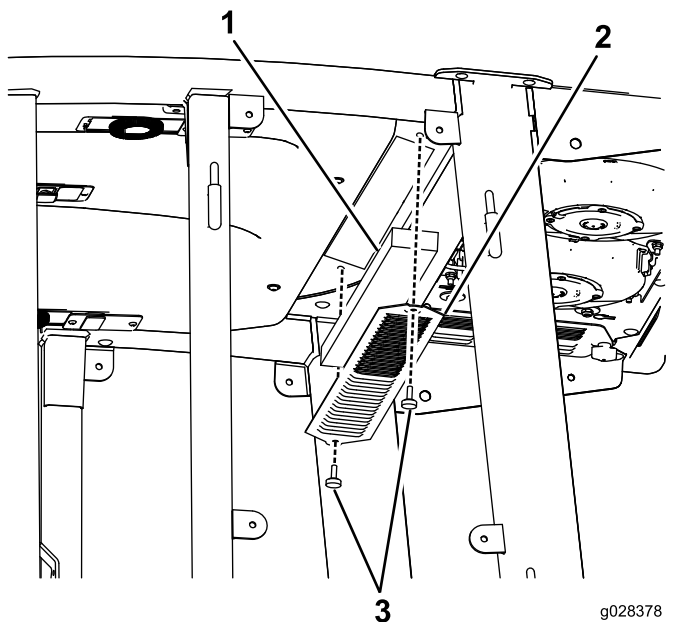
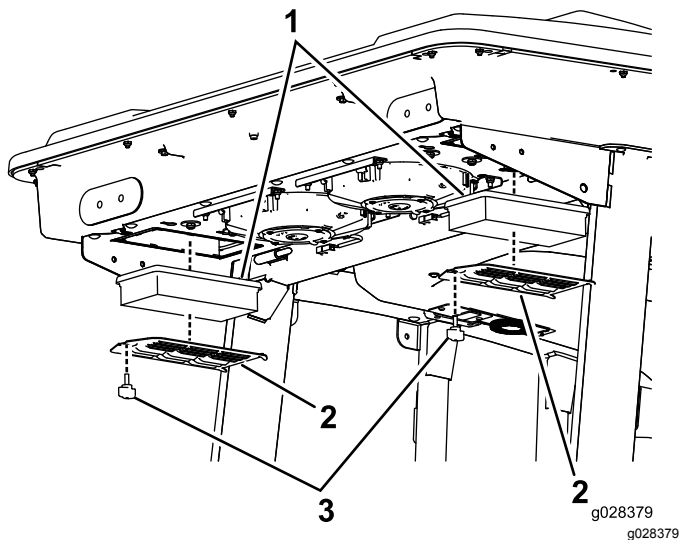
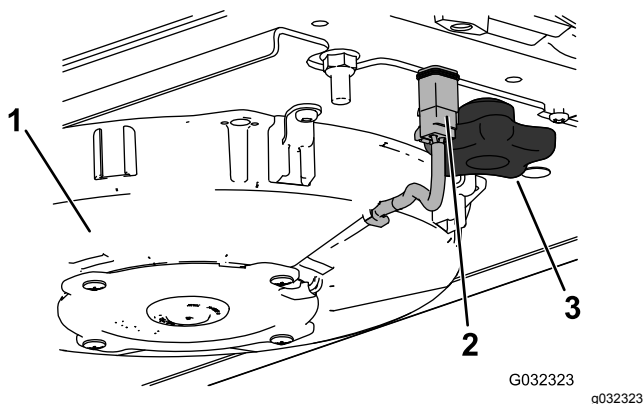
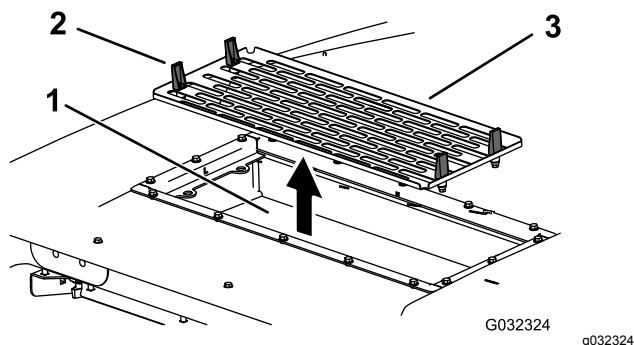

Figure 142
Figure 143
Figure 145
Figure 146
1. Remove the screws and grates from both the in-cab and rear cab air filters (Figure 142 and Figure 143).
5. Remove the air filters (see Figure 143).
7. Install the air filters, screen, and fan assembly (Figure 143, Figure 145, and Figure 146).
8. Connect the wire for each fan (Figure 145).